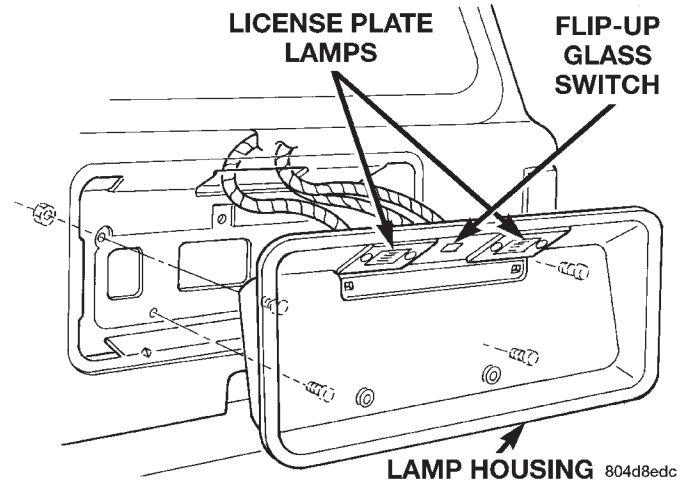

Fig. 72 License Plate Lamp Housing
- (1) Remove liftgate trim panel
- (2) Remove lamp housing retaining screws from liftgate (Fig. 72).
- (3) Disconnect bulb socket from lamp housing.
- (4) Disconnect Flip-Up glass switch connector, if equipped.
- (5) Remove housing from liftgate.